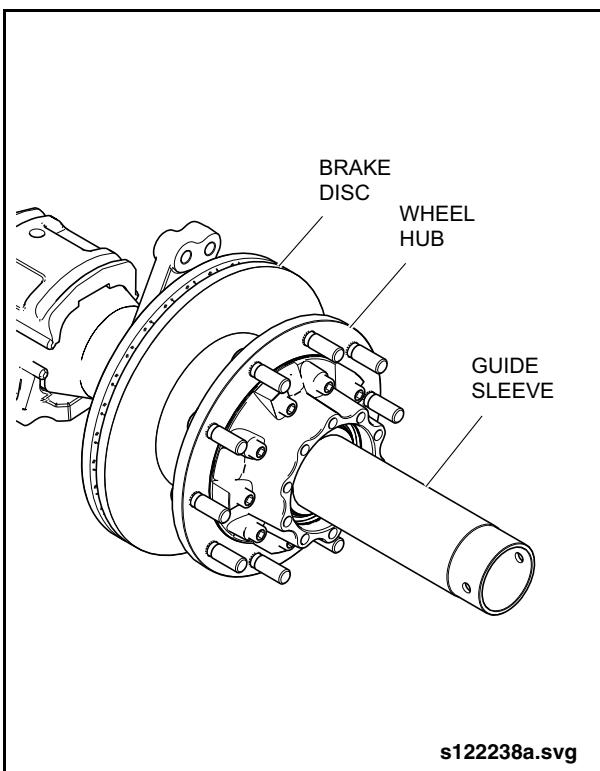

Fig. 2-139: Removing Wheel Hub & Brake Disc
5. Install threaded guide sleeve (Item 13 from special tools list) onto the axle stub and lubricate guide sleeve surface. See "Fig. 2-139: Removing Wheel Hub & Brake Disc" on page 119.